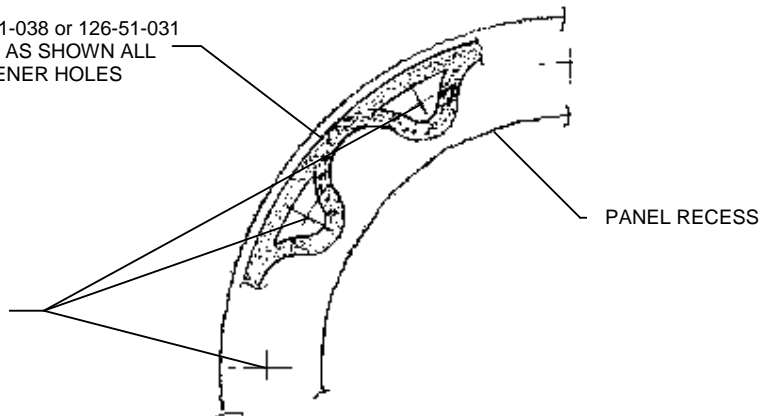

FIGURE 3
- 20.4 Refit access panel/s using sealant 126-51-038 or gasket sealant 126-51-031, applied IAW Figure 3. Ensure bonding strips are aligned. Use screws 126-21-116, fasten screw at bonding position first, and then diametrically opposite followed by remainder. Torque to 20-25 lb ins before sealant has cured as per previous sequence. Ensure continuous bead of sealant has formed around circumference of panel and that panel is flush or below surface. If below surface, ensure no more than 2mm. It is acceptable for sealant to ooze out at screw positions.